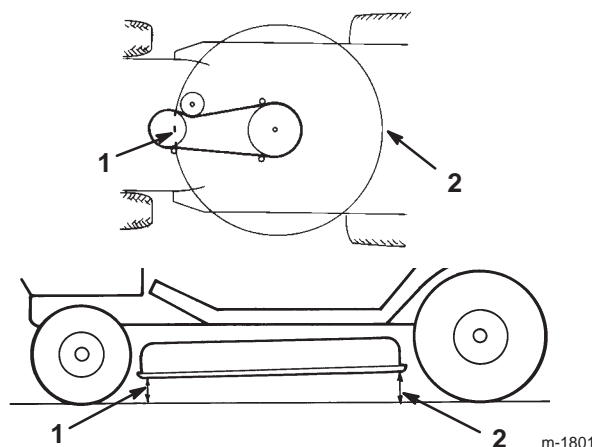

Figure 46
10. Check the front-to-rear blade slope by measuring between the bottom of the mower (front center and rear center) and the flat surface (Fig. 46). If the front of the mower is more than 5/8 in. (16 mm) lower than the rear of the mower, adjust it; refer to steps 11 through 17.